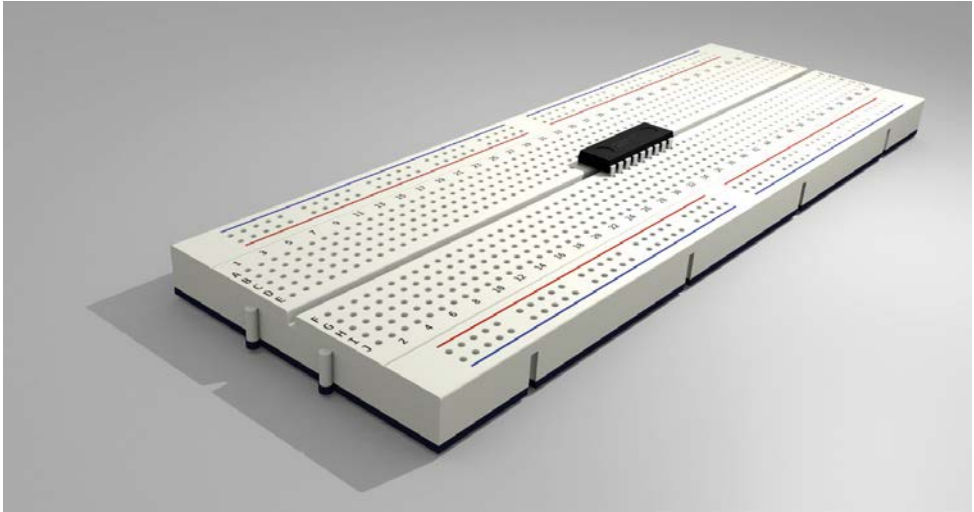

Figure 2-3: A breadboard with a lone DIP integrated circuit plugged in.
Figure 2-3, image by Cz-David under <https://creativecommons.org/licenses/by-sa/3.0/deed.en> license) shows a **Dual in Package (DIP) Integrated Circuit (IC)** mounted on a breadboard.